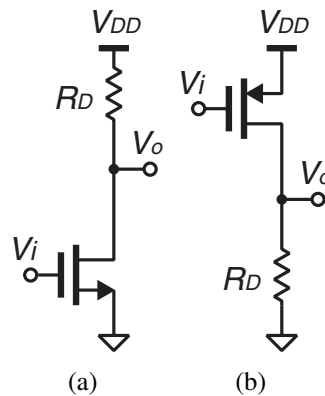

Figure 1: (a) NMOS and (b) PMOS common-source amplifiers.
In this lab, you are to design, simulate, and implement NMOS- and PMOS-based common-source amplifiers with a resistive load shown in Figure 1. They will be designed for different requirements such as gain, swing and supply voltage.
1. Find the expressions for the small-signal gain of the NMOS and PMOS common-source amplifiers shown in Figure 1 designed for a given  $I_D$ .